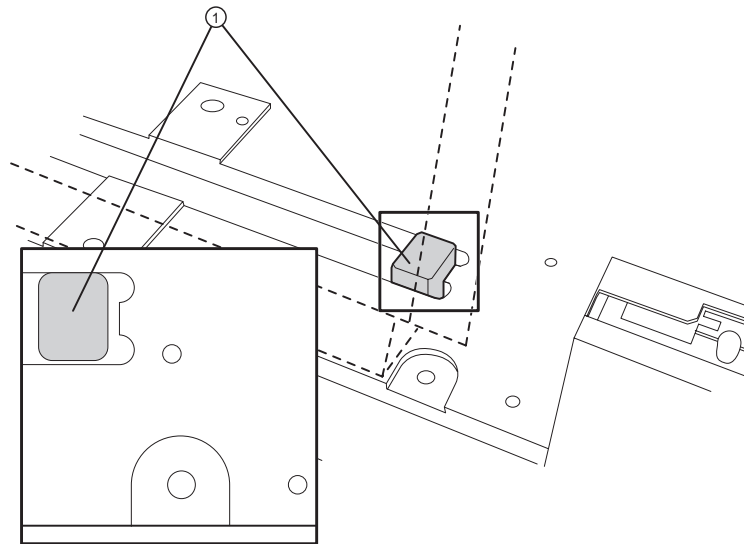

Figure 1-10 Aligning the bridge using the guide blocks.
①—Bridge. ②—Bridge foot. ③—Foot thumb screw (one of two).
3. Using a flashlight, look to the left and right of the bridge to make sure that the guide blocks are not hitting the take-up platform opening. Refer to Figure 1-10.
①—Bridge mount casting. ②—Lower mount casting. ③—Gas shock.
4. Lift the bridge and check the guide block for scuffing (see Figure 1-10). Lower the bridge and, with a flashlight, check again that the guides are not hitting the plate.